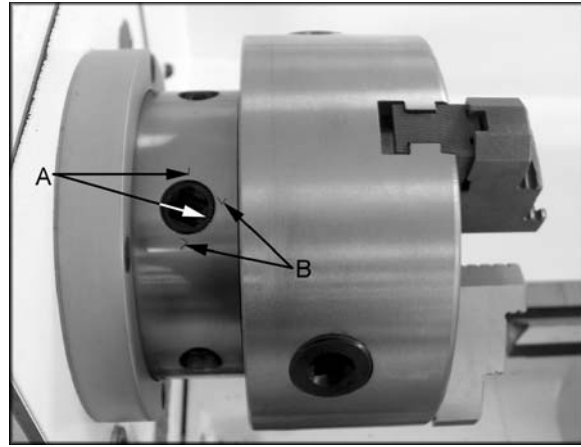

Figure 4
5. Lift the chuck up to the spindle nose and press onto the spindle. Tighten in place by turning the cam locks 1/4 turn clockwise. The index mark (A, Fig. 4) on the camlock should be between the two indicator arrows (B, Fig. 4) when tight. If the index mark is not between the two arrows, remove the chuck and adjust the camlock studs by either turning out one full turn (if cams will not engage) or turning in one full turn (if cams turn beyond indicator marks).